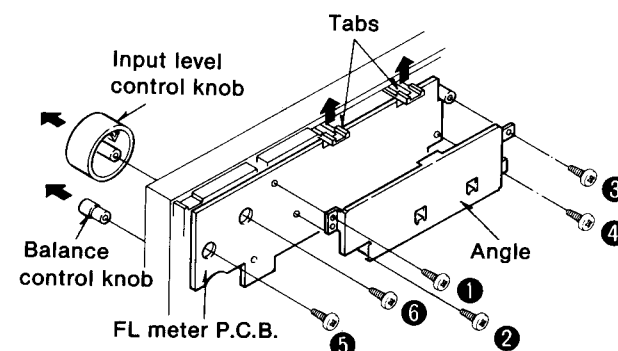

Fig. 2
- Remove the screw (7).
- Pull out the input level control knob and the balance control knob. (See the Fig. 2).
- Push the 3 tabs (8) and then remove the front panel.
- Push the 2 tabs (9).